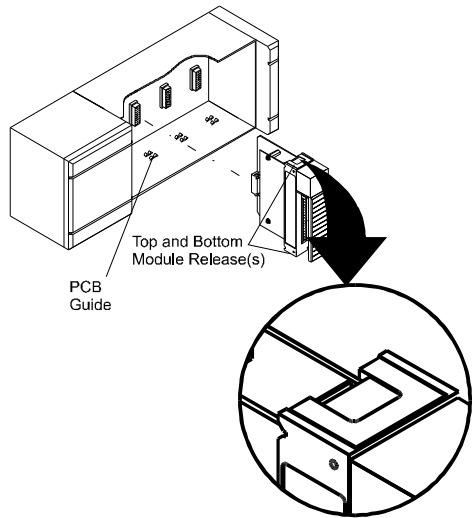

FIG. 3-4 MODULE RELEASE(S)
- Step 4. When the module connector is touching the backplane connector, firmly but carefully push toward the chassis until the pins are plugged in and the Processor Releases (both top and bottom) are snapped into place. (See Fig. 3-4 & 3-5)
- Step 1. Press down on the top and bottom Processor Releases simultaneously until the module can be pulled away from the chassis. (See Fig. 3-4)